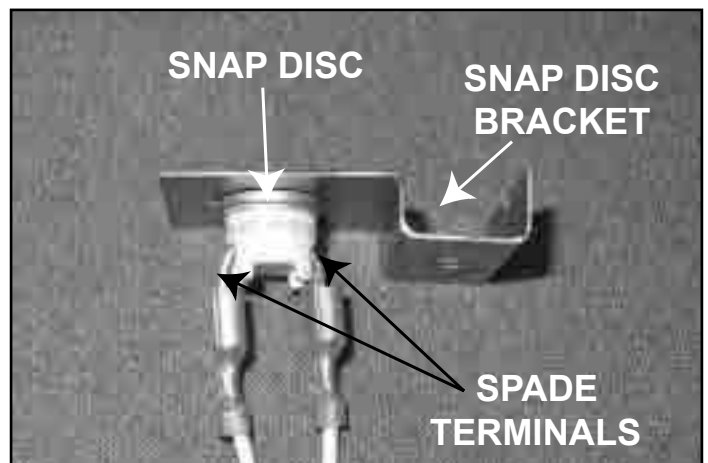

Figure 8.6 Install Snap Disc
4. Install the snap disc. A snap disc bracket is located in the appliance's component bag. Bend the two spade terminals on the snap disc from a horizontal to a vertical position. Insert the snap disc through the hole in the snap disc bracket and attach the two white wires from the wiring harness to the snap disc. See Figure 8.6.